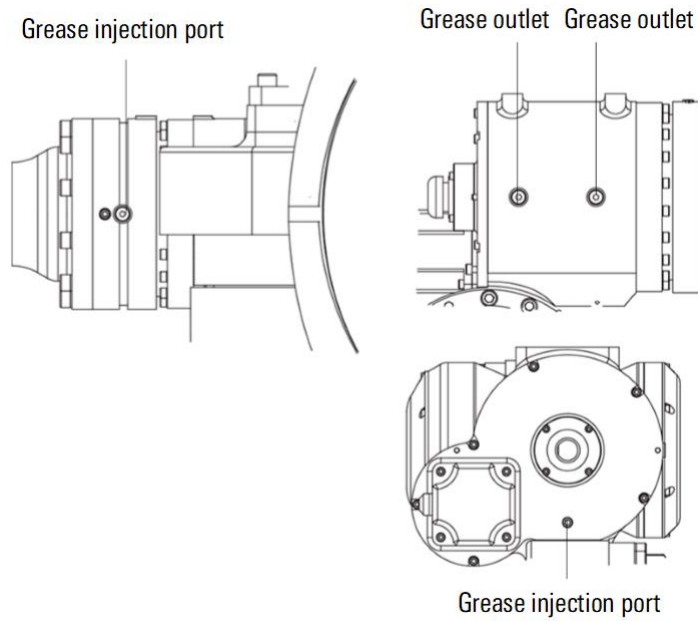

Figure 10-9 Diagram of replacing lubricating grease for J4 axis gearbox and reducer
- Step3. Remove the sealing screw of the grease injection port and the grease discharge port, as shown in Figure 10-9.